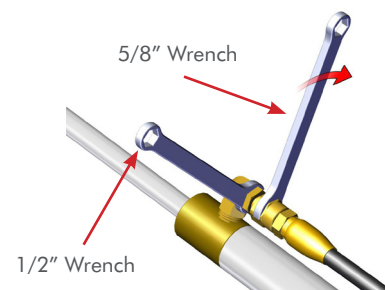

Figure 7
**STEP 7** While holding the **UP Cylinder Fitting Base** with a **1/2" Wrench**, turn the **UP Hose Fitting** clockwise a quarter turn with a **5/8" Wrench**. **FIG 7**